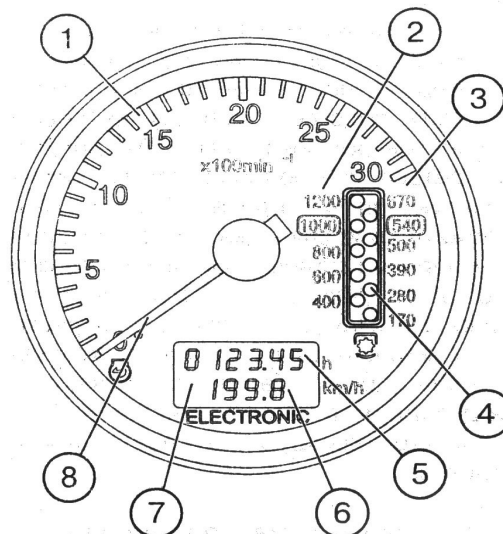

Рис. 1. Tachospeedometer (P1):
1.1 Tachospeedometer AP70.3813 (Fig. 1)